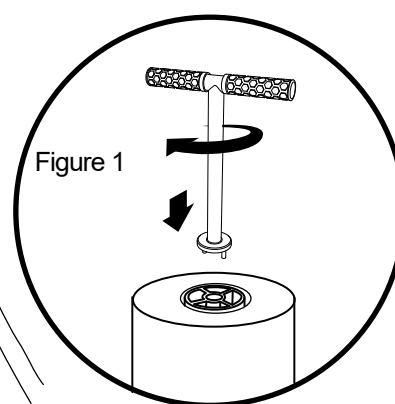

Figure 1
2. Place base of Mounting Plate(A) on top of Upper Post #5 and secure with Bolt(D). *See figure 1.*
1. Use "T" Tool, turn clockwise to Tighten all Upper Posts to Lower Posts. See *Figure 1*.
3. Place Post Caps(A) on top of Posts #1, #2, #3, #4 and #7. Insert Bolts(B), into treaded inserts on Posts and Tighten.